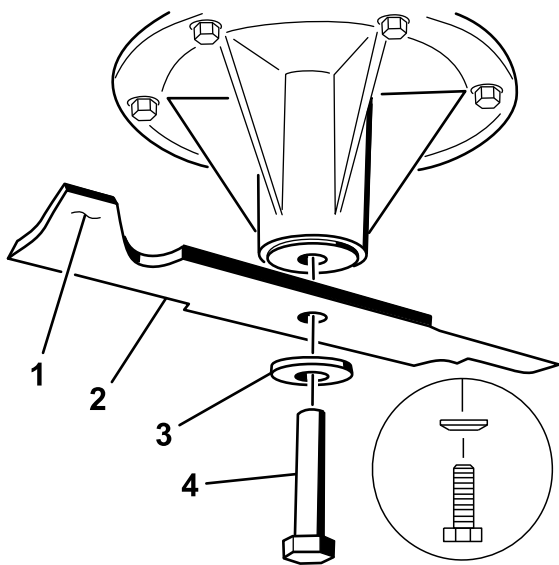

Figure 84
- Install the blade onto the spindle shaft (Figure 84).
- Install the spring disk and blade bolt (Figure 84).
Note: The spring-disk cone must be installed toward the bolt head (Figure 84).